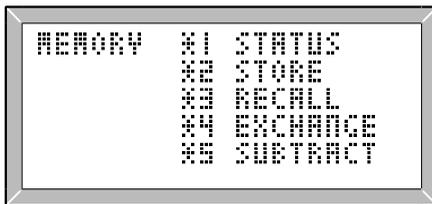
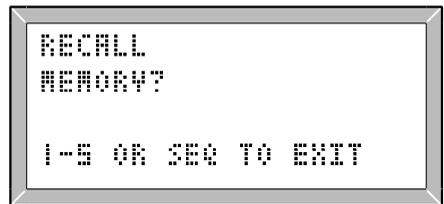

Fig. 3.12 Memory Operations Menu
Fig. 3.13 Recalling Results
Up to six sets of stereo sequence results can be held in non-volatile memory for later comparison, printing or transfer to a computer. A menu (fig 3.12), obtained by pressing **[\*MEM]** from PAGE or SEQ mode, lists five operations: **[\*2]** saves the results from the 'working' memory (0) to a specified memory (1 to 5). **[\*3]** recalls results (fig 3.13) from a specified memory (1 to 5) to the working memory (0). **[\*1]**, **[\*4]** and **[\*5]** are for status (show the source ID and segment list for a memory), exchange (gives, instant comparison between memories) or subtract (each sample in a chosen memory is subtracted from the sample in memory 0). Note that these operations can also be carried out by pressing **[\*1]** to **[\*5]** directly without entering the menu (with the small restriction that **[\*1]** cannot be used from the graph page). When an operation has been selected the memory number should be entered by pressing 1-5. At this stage, the operation can be aborted by pressing **[SEQ]**, or a different operation can be selected by pressing the appropriate **[\*]** key (**[\*1]** to **[\*5]**).
Usually the unit can hold six complete sets of results in memories 0 to 5 (memory 0 being the main or working memory). However, the number of results memories is reduced when user tolerances are defined (section 5.6) or when the unit is configured for multiple results compartments (section 4.18). In either case, the range of memory numbers available is always shown (as in fig 3.13).